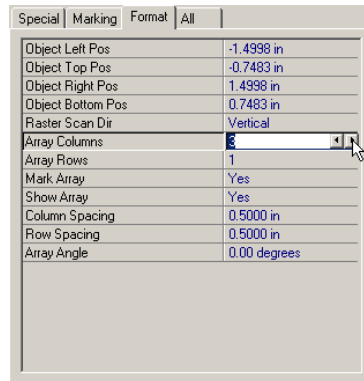

Figure 10-4 Setting number of Array Columns
- 3 In the *Property List*, click the *Format* tab, and then click *Array Columns* (Figure 10-4).